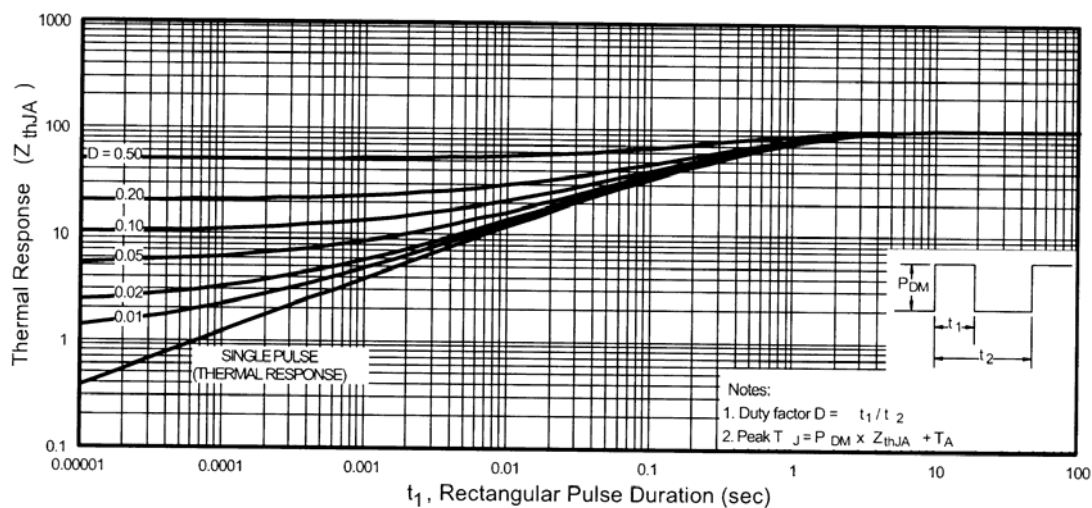

Fig 11. Maximum Effective Transient Thermal Impedance, Junction-to-Ambient
- ① Repetitive rating; pulse width limited by max. junction temperature. (See fig. 11)
- ② $I_{SD} \leq 1.7A, di/dt \leq 120A/\mu s, V_{DD} \leq V_{(BR)DSS}, T_J \leq 150^\circ\text{C}$
- ③ Pulse width $\leq 300\mu s$; duty cycle $\leq 2\%$.
- ④ Surface mounted on FR-4 board, $t \leq 10sec$.